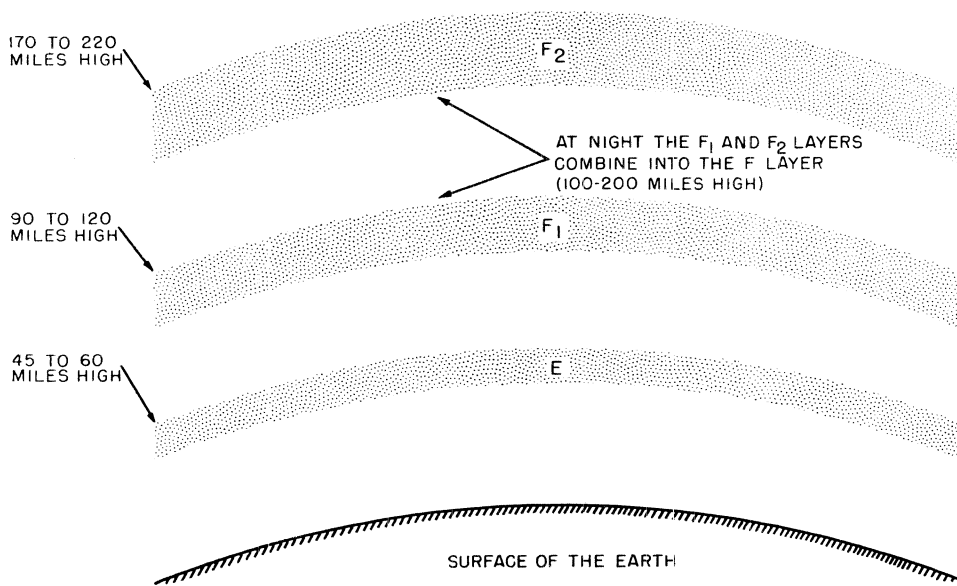

Figure 56. Location of ionospheric layers.
a. The spherical layers of the ionosphere are layers of ions of the atmosphere, formed by ultraviolet radiation from the sun. These, in order of their distance from earth, are E and F (which is made up of the F1 and F2 layers) (fig. 56).